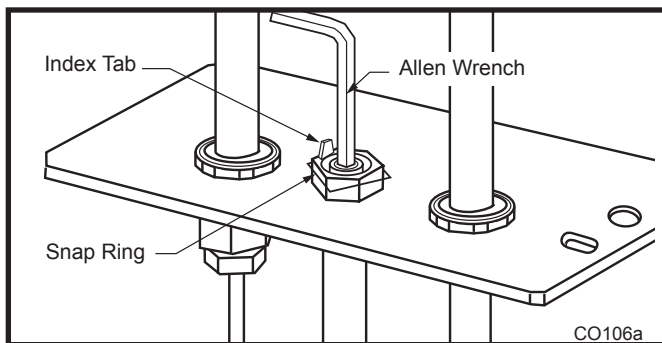

Fig. 66 Remove pilot orifice.
8. Remove pilot orifice with allen wrench. (Fig. 66)